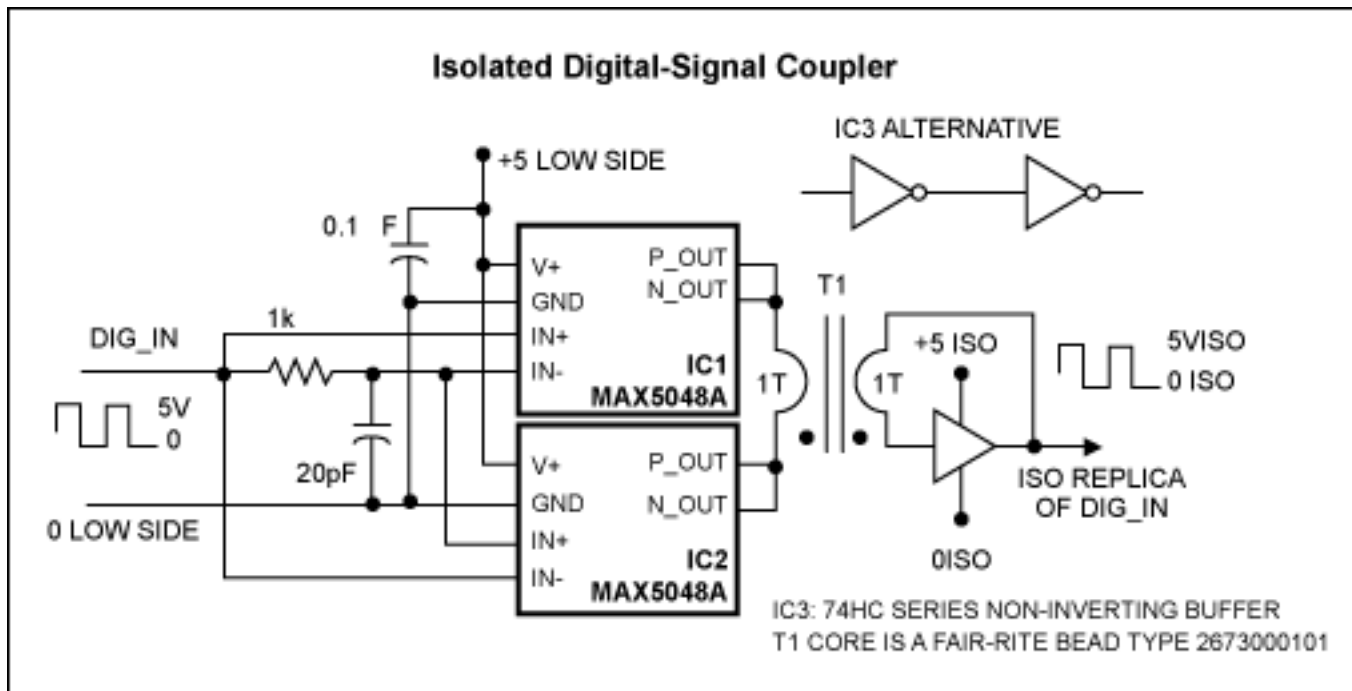

Figure 1. This magnetic-coupled circuit for digital signals is an alternative to optocoupler designs.
**Figure 1** is an alternative to optocoupler designs. This unorthodox approach offers very low I/O capacitance (less than 0.5pF), a static power consumption of zero, a propagation time of approximately 10ns, and a pulse-width transmission capability ranging from 30ns to DC. This magnetic-coupled circuit takes advantage of both the logic structures at the inputs of the two MOSFET driver ICs (MAX5048A), and the fast, matched propagation times of those ICs.